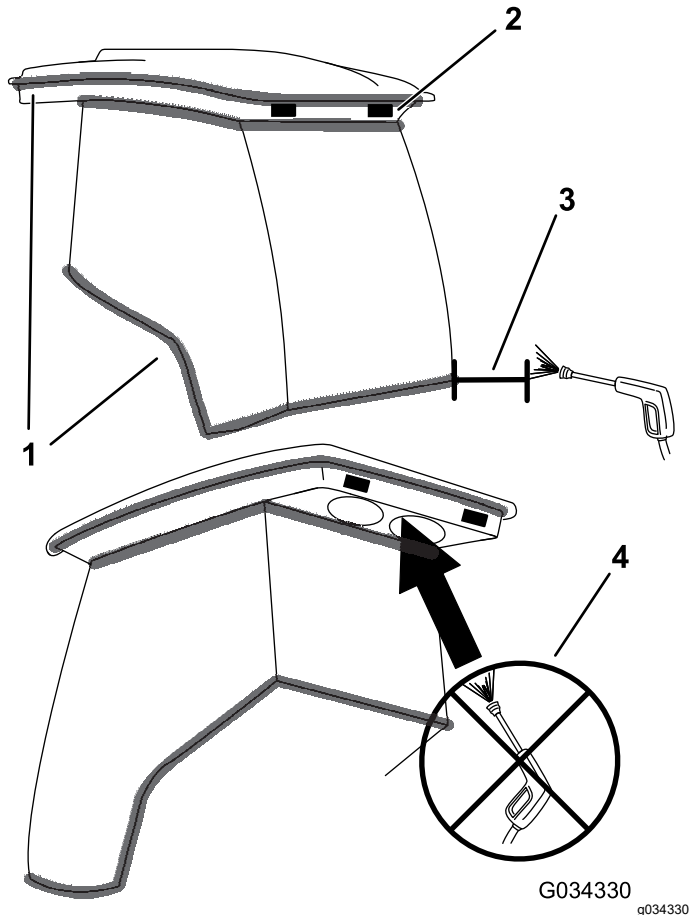

Figure 84
**Important:** Use care around the cab seals (Figure 84). If you are using a pressure washer, keep the washer wand at least 0.6 m (2 ft) away from the machine. Do not use the pressure washer directly on the cab seals or under the rear overhang.